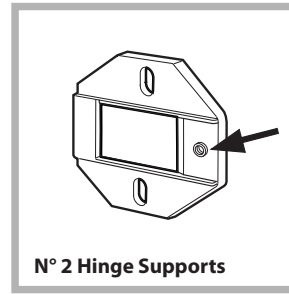

Fig. 1
- Fit the hinge supports to the appliance front panel, positioning the hole marked with an arrow in *fig. 1* so that it is on the inner side of the front panel. Fit a spacer (*fig. 4/B*) between the surfaces using type **C** screws.